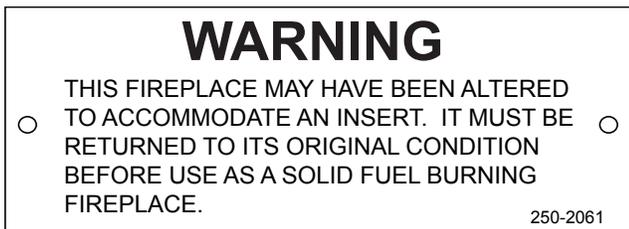

Figure 38.1
- The permanent metal warning label provided in the component pack must be attached to the back of the fireplace, with screws or nails, stating that the fireplace may have been altered to accommodate the insert, and must be returned to original condition for use as a conventional fireplace (**Figure 38.1**).